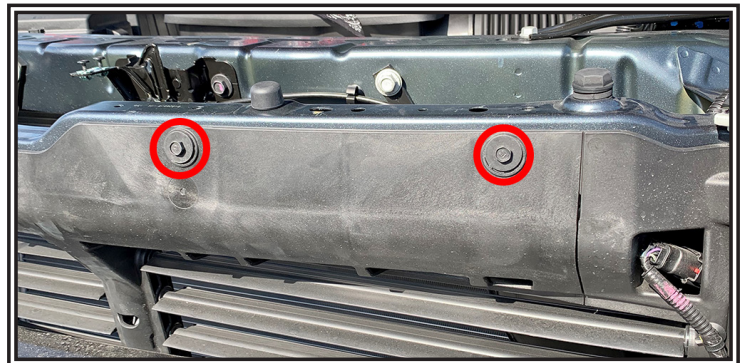

Figure 1
- Step 2.** Remove the two factory screws as shown in Figure 1.